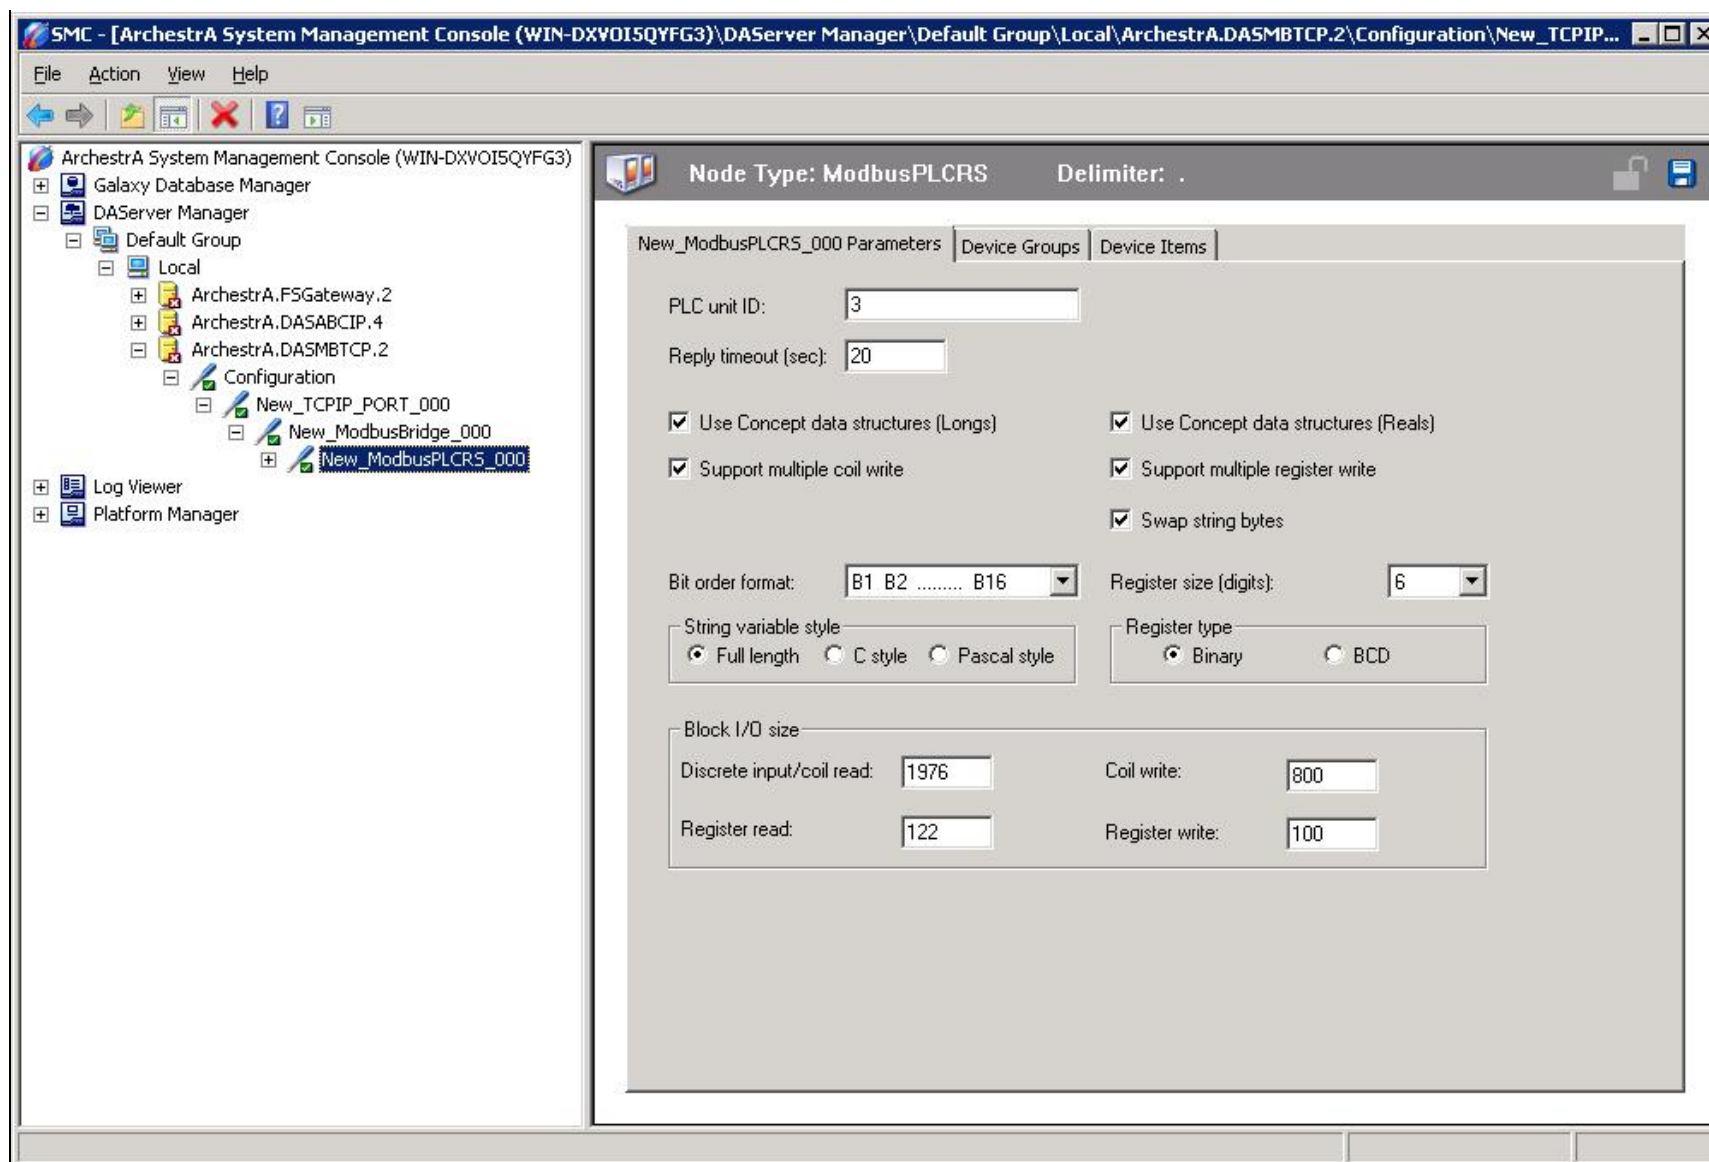

FIGURE 4: NEW_MODBUSPLCRS_000 FACEPLATE
1. Right click the **New_ModbusBridge_000** icon and add a PLC device node. In Figure 4 (below), **Add ModbusPLCRS Object** is selected. It is a generic Modbus device.
2. Enter the **PLC unit ID** of the end device. (Figure 4 above).
1. Select the **Device Groups** tab (Figure 4, above).